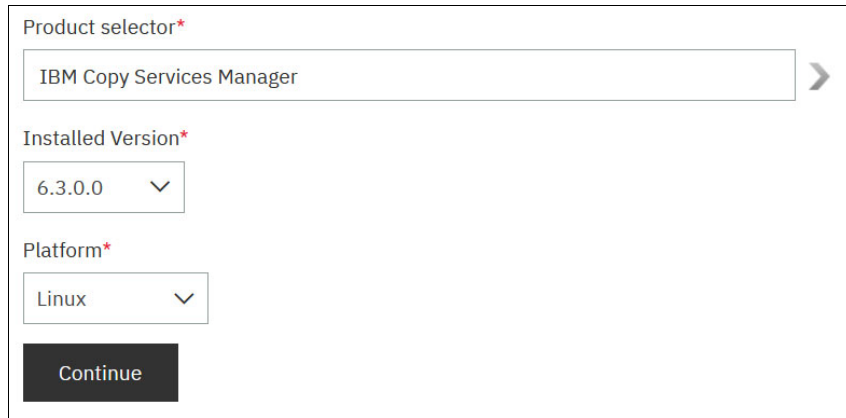

Figure 6-8 Selected IBM Copy Services Manager Version for HMC
1. On the IBM Fix Central page, select **IBM Copy Services Manager** as the product, **6.3.0.0** as the installed version, and **Linux** as the platform. Figure 6-8 shows a summary of selected options.